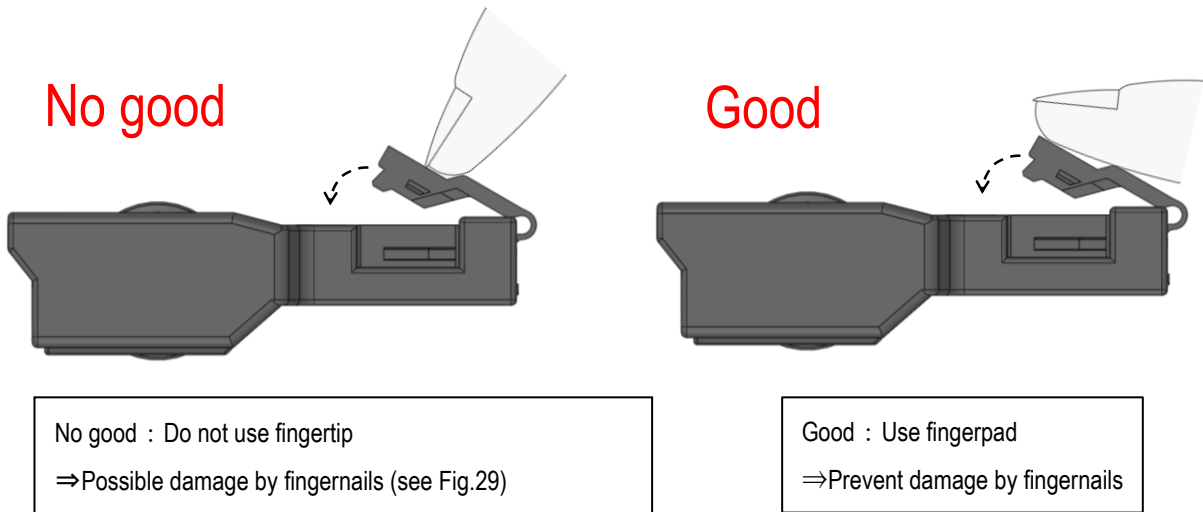

Fig.28. Precautions for the secondary lock part installation
④ Do not use fingertips to install secondary lock parts as shown in Fig. 28.